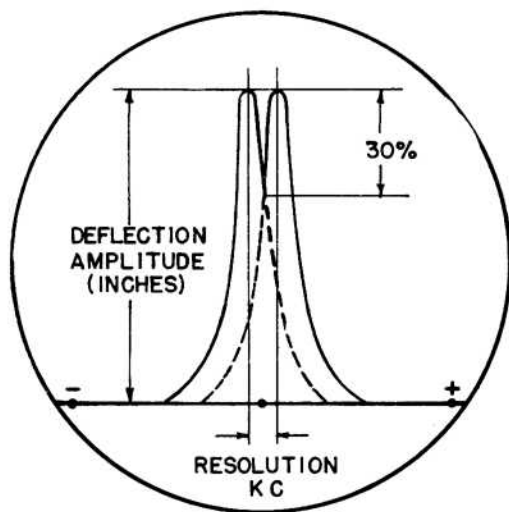

Figure 5. Resolution.
**h. Resolution.** Resolution (fig. 5) is the visual equivalent of selectivity and is represented by the frequency difference between two signals of equal amplitude which intersect 30 percent down from their peak amplitude. It is said that the resolution is *better* as this frequency difference decreases.